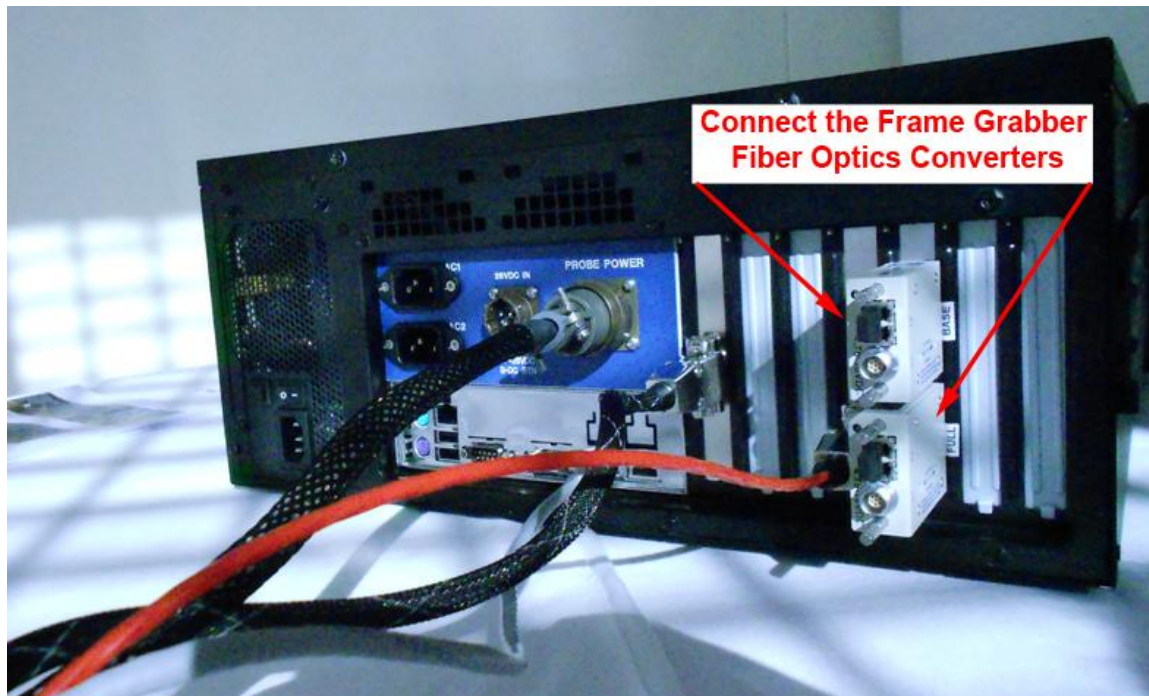

Figure 2.2.6 Connecting the Fiber Converters to the Data Acquisition System
6. Connect the Framegrabber Fiber Optics Converters to J1 on the Data Acquisition System. See **Figure 2.2.6**: Connecting the Fiber Converters to the Data Acquisition System.
5. Connect the sensor camera Fiber Optics to J1 on the Data Acquisition System only. DO NOT connect the other end to the Sensor Head yet. See **Figures 2.2.6-10**.